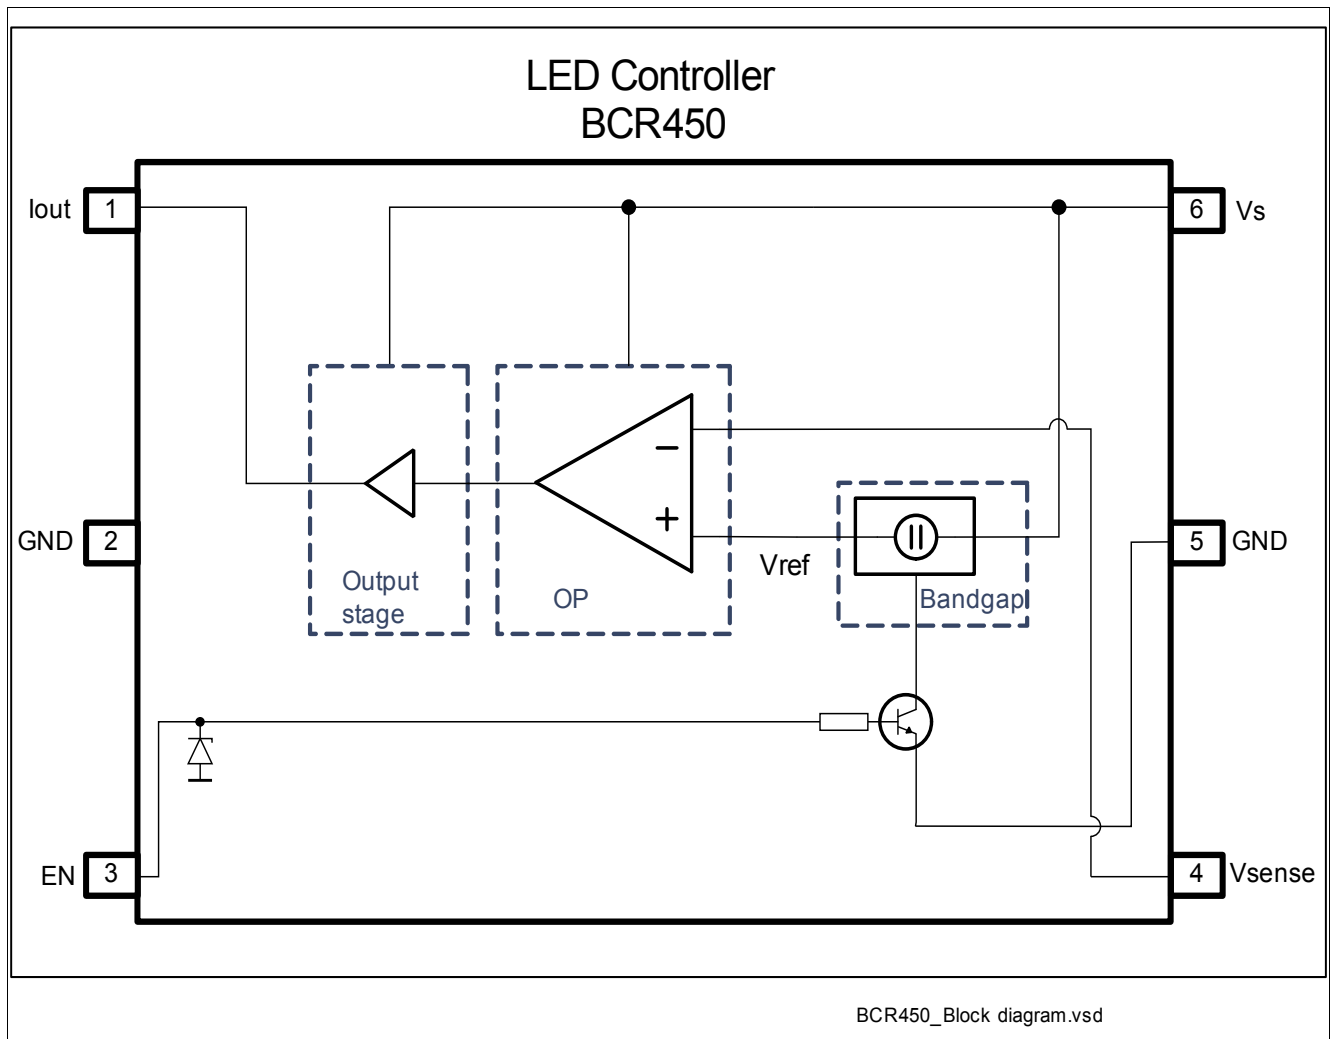

Figure 1 Block diagram
| Figure 1 | Block diagram: Pin 3 (EN), ESD protection and base resistor added |